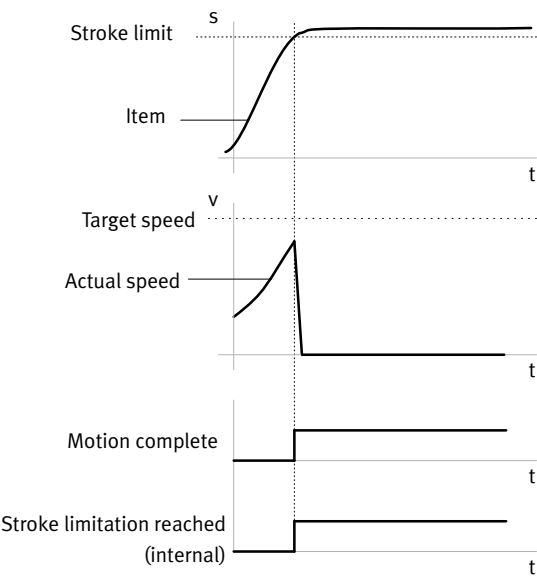
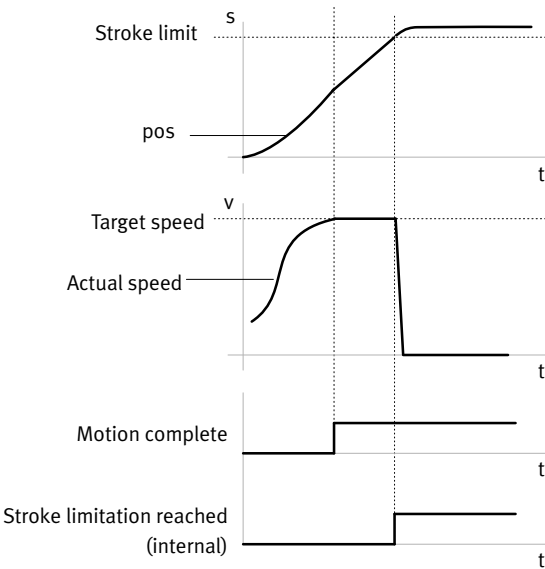

Fig. 2.6 Stroke limitation reached before target speed - example
Fig. 2.7 Stroke limitation reached after target speed - example
– Stroke limitation is reached first	<p>The “Stroke limitation” signal is set.</p> <p>The actuator is braked down to a stop using the parameterised Quick-Stop deceleration function. Although the target speed has not yet been reached, the Motion Complete signal was set (→ Fig. 2.6 and Fig. 2.7)</p> <p>Open-loop operation: the actuator remains at the target position and is maintained in position with the predefined holding current.</p> <p>Closed-loop operation: the actuator remains position-controlled.</p>